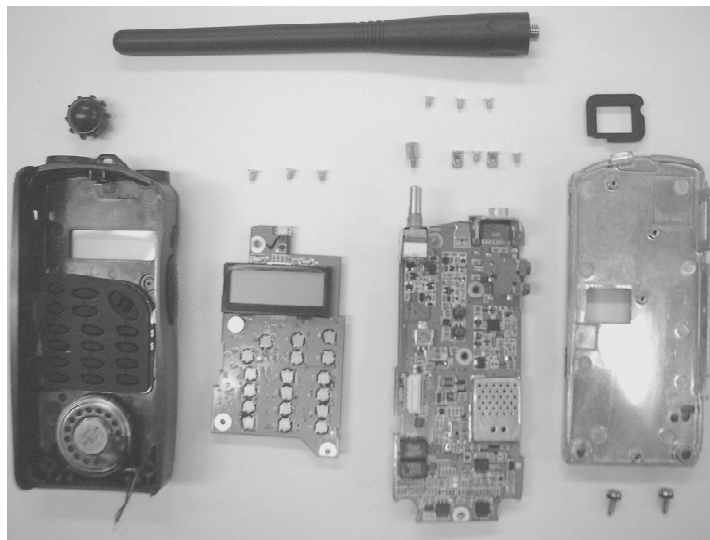

Figure 2-6 Completely Disassembled Radio
2. Gently remove the RF board from rear diecast. The completely disassembled radio is shown in "Figure 2-6".